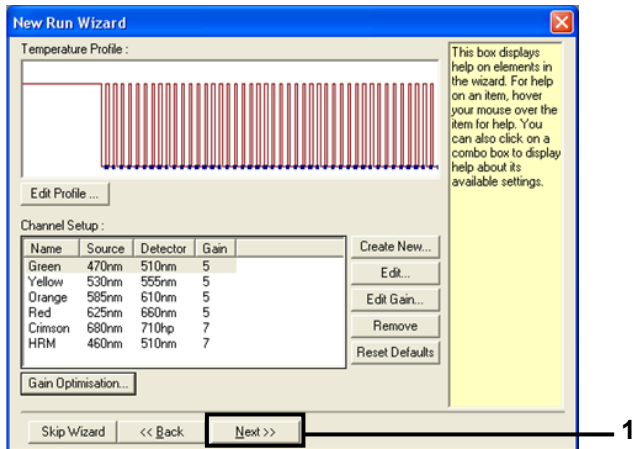

Figure 22. The "New Run Wizard" dialog box and temperature editing screen. (1 = "Next")
15. The next window allows editing of the temperature profile. (No editing is required as the temperature profile was created according to the instructions in "Creating a temperature profile," page 19). Click **Next** (Figure 22).